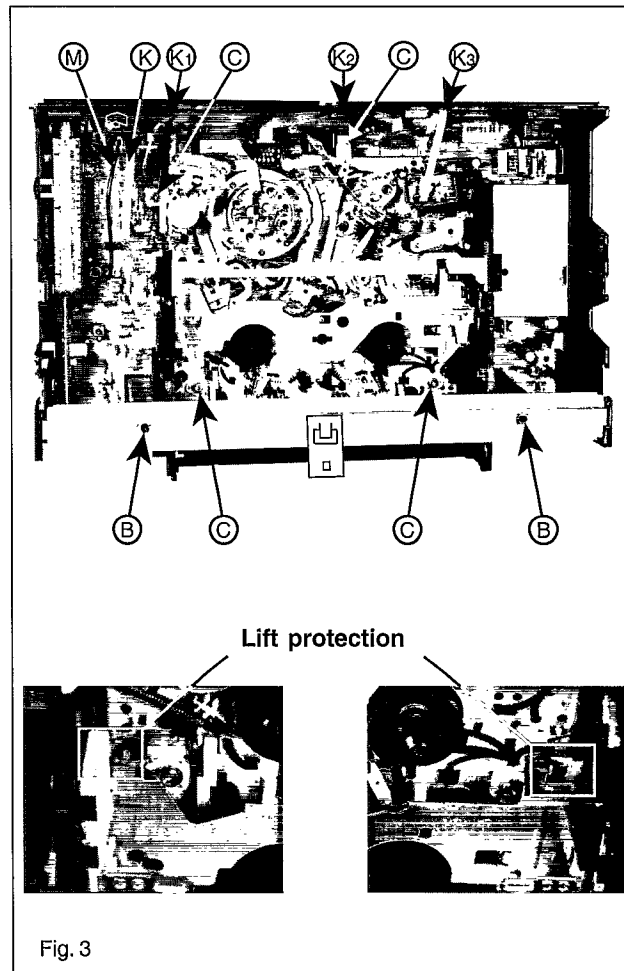
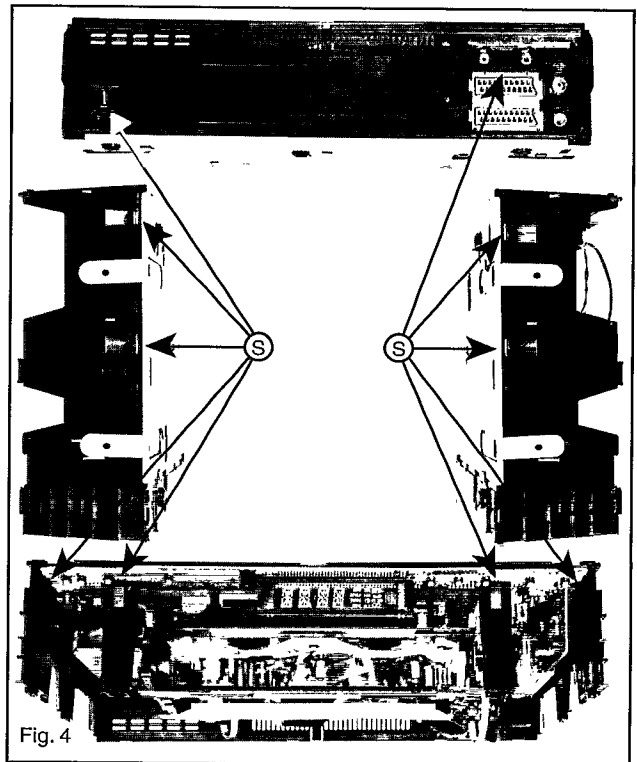
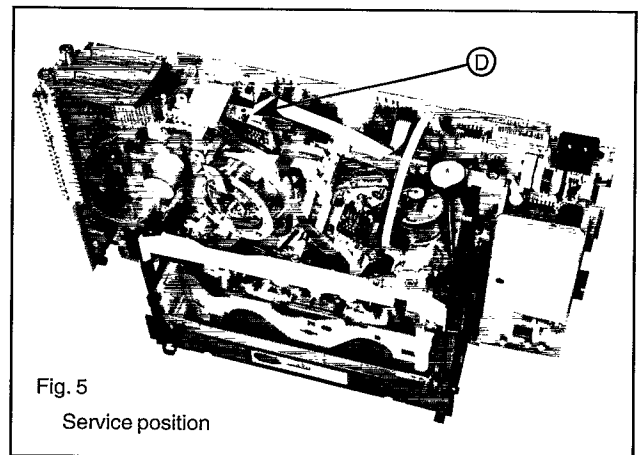
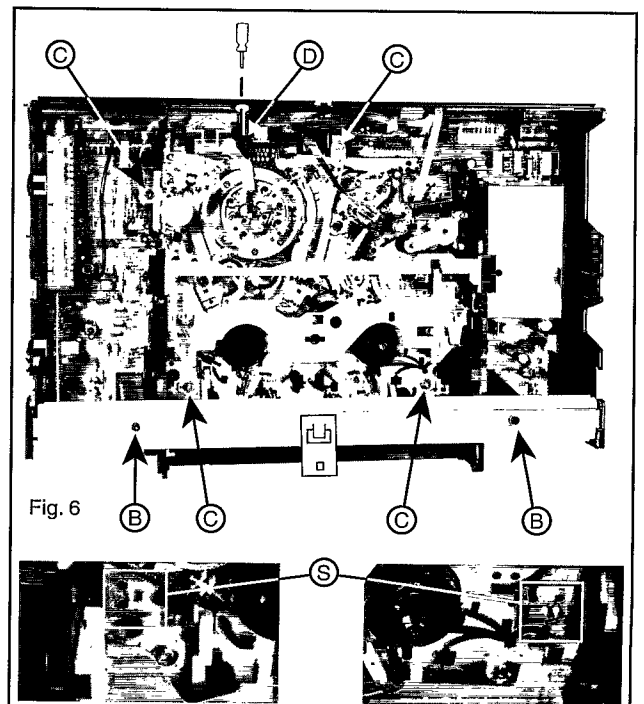

Fig. 3
Fig. 4
Fig. 5
Fig. 6
#### 4. Dismantling of the motherboard/drive combination (Fig. 3) (Fig. 4)
- Move device into operational position (Fig. 3).
- Undo the two screws (B) of the stay and pull it up to remove it.
- Undo and remove the four fastening screws (C) of the drive.
- Detach the Cinch socket cable (K) and ground cable (M) from the socket print (if present).
- Undo the 10 catches (S) from the rear right to the rear front and then from the rear left to the front left.
- After the weight of the motherboard/drive unit has released it from the frame, the catch (S) at the mains socket has to be released for a second time.
- Turn the motherboard/drive unit and move it into the service position (Fig. 5), if necessary.
## 5. Dismantling the drive (Fig. 3)(Fig. 5)(Fig. 6)